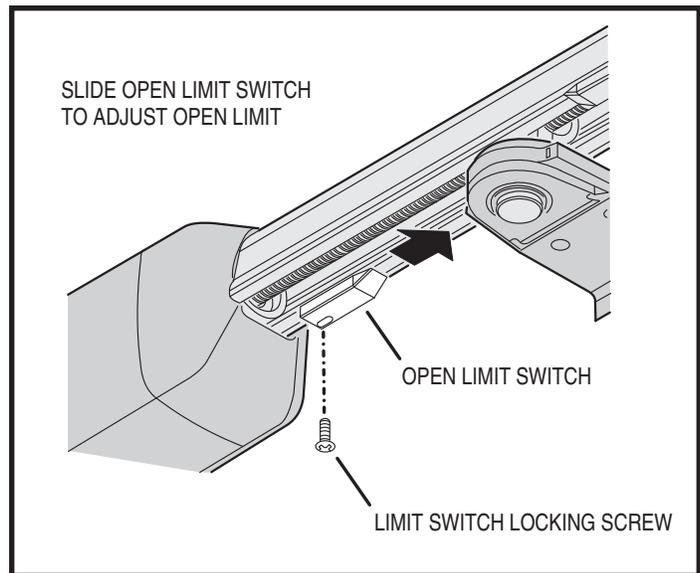

Figure 8. Open Limit Switch
1. To limit the *opening* travel of the gate for setup, loosen the locking screw on the open limit switch, slide the switch towards the center of the operator (see Figure 8).